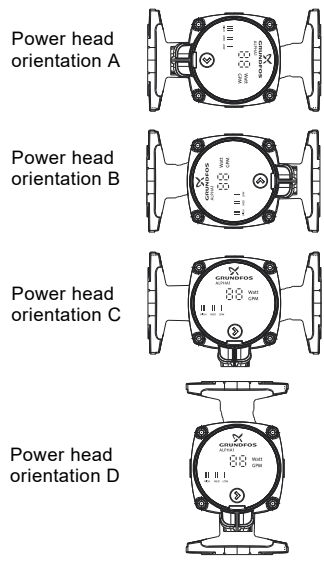

Fig. 3 Changing the power head position
- See fig. 3 for permissible positions.
3. Turn the pump head to the desired position. See fig. 3.